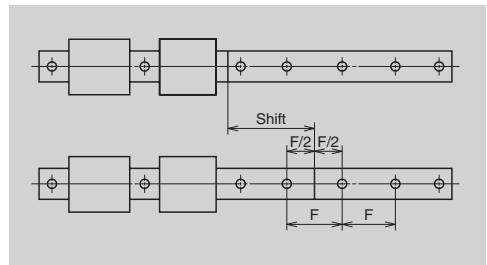

Fig. 9.26
- The pitch of the rail mounting hole on the butting section should be as F in Fig. 9.26. When two rails are used in parallel, the butted sections should not align. This is to avoid change in the running accuracy of the table at the butted sections.